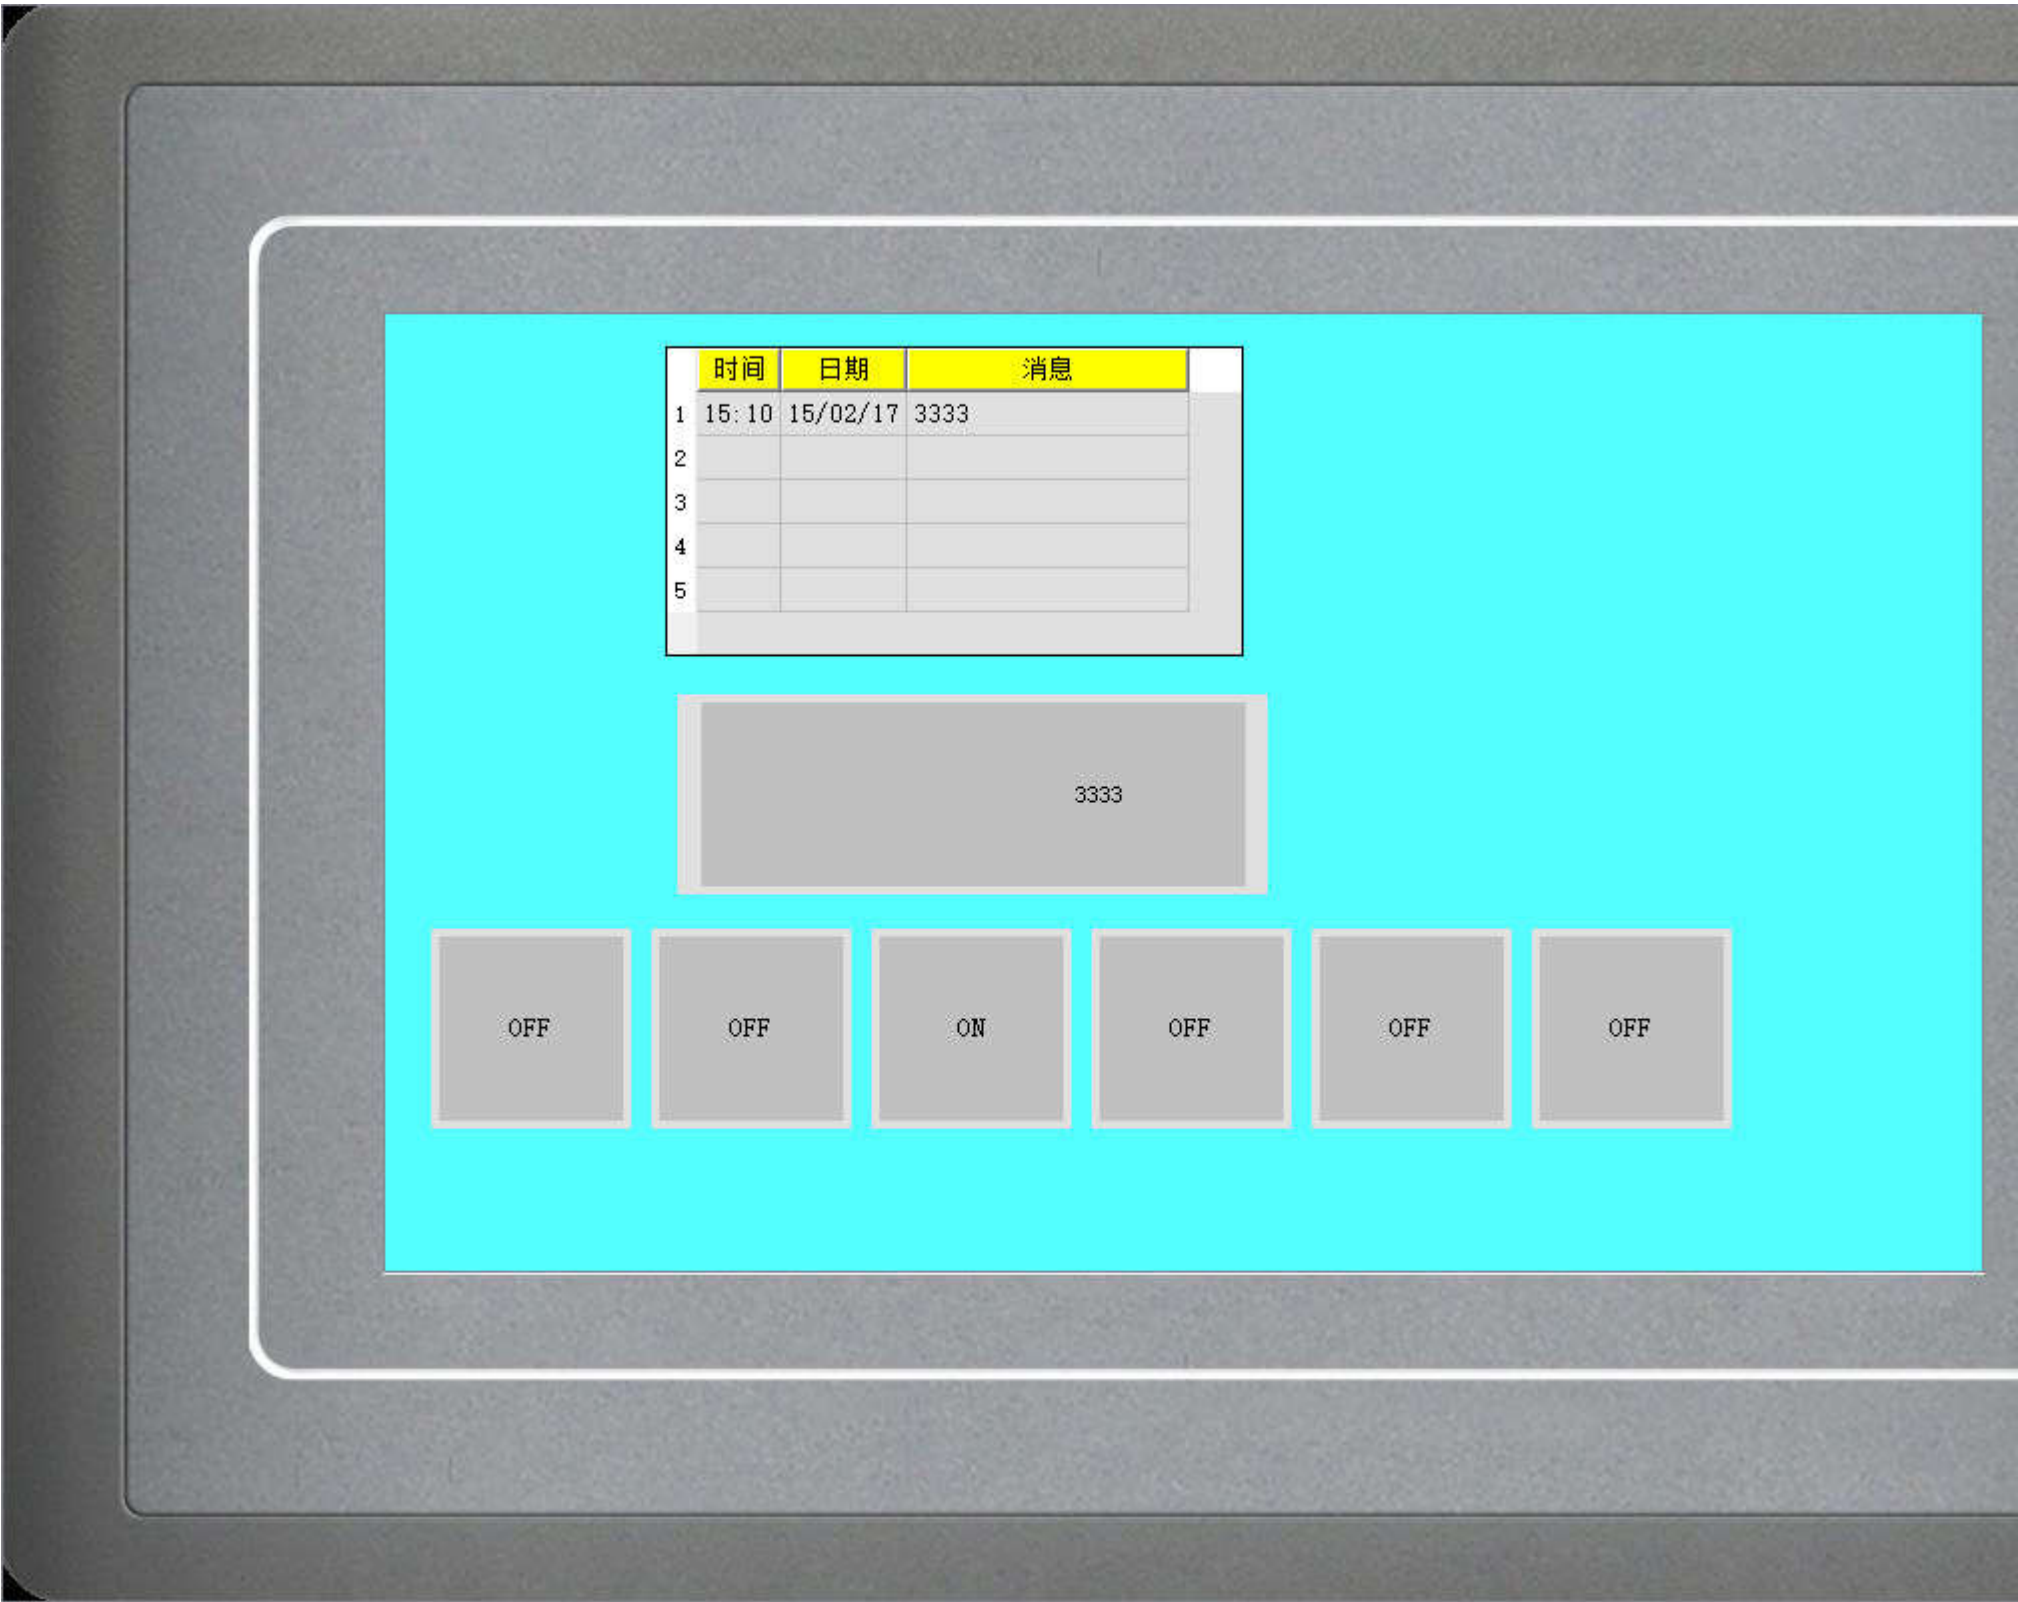

Figure 7-23 Offline simulation example of digit alarm
- Click an item in the list box, and then move the mouse to the right of the "Message" module; input text information in the "Text" edit box serving as the alarm content. Here assume that the alarm messages are as shown in Figure 7-23.
- OFF Alarm: When this option is selected, the alarm will be generated when the corresponding address value is 0 (OFF value). Otherwise, an alarm will be generated when the address value is 1 (ON value). By default, an alarm occurs when the address value is 1 (ON).
The following is an example of offline simulation as shown in Figure 7-23: